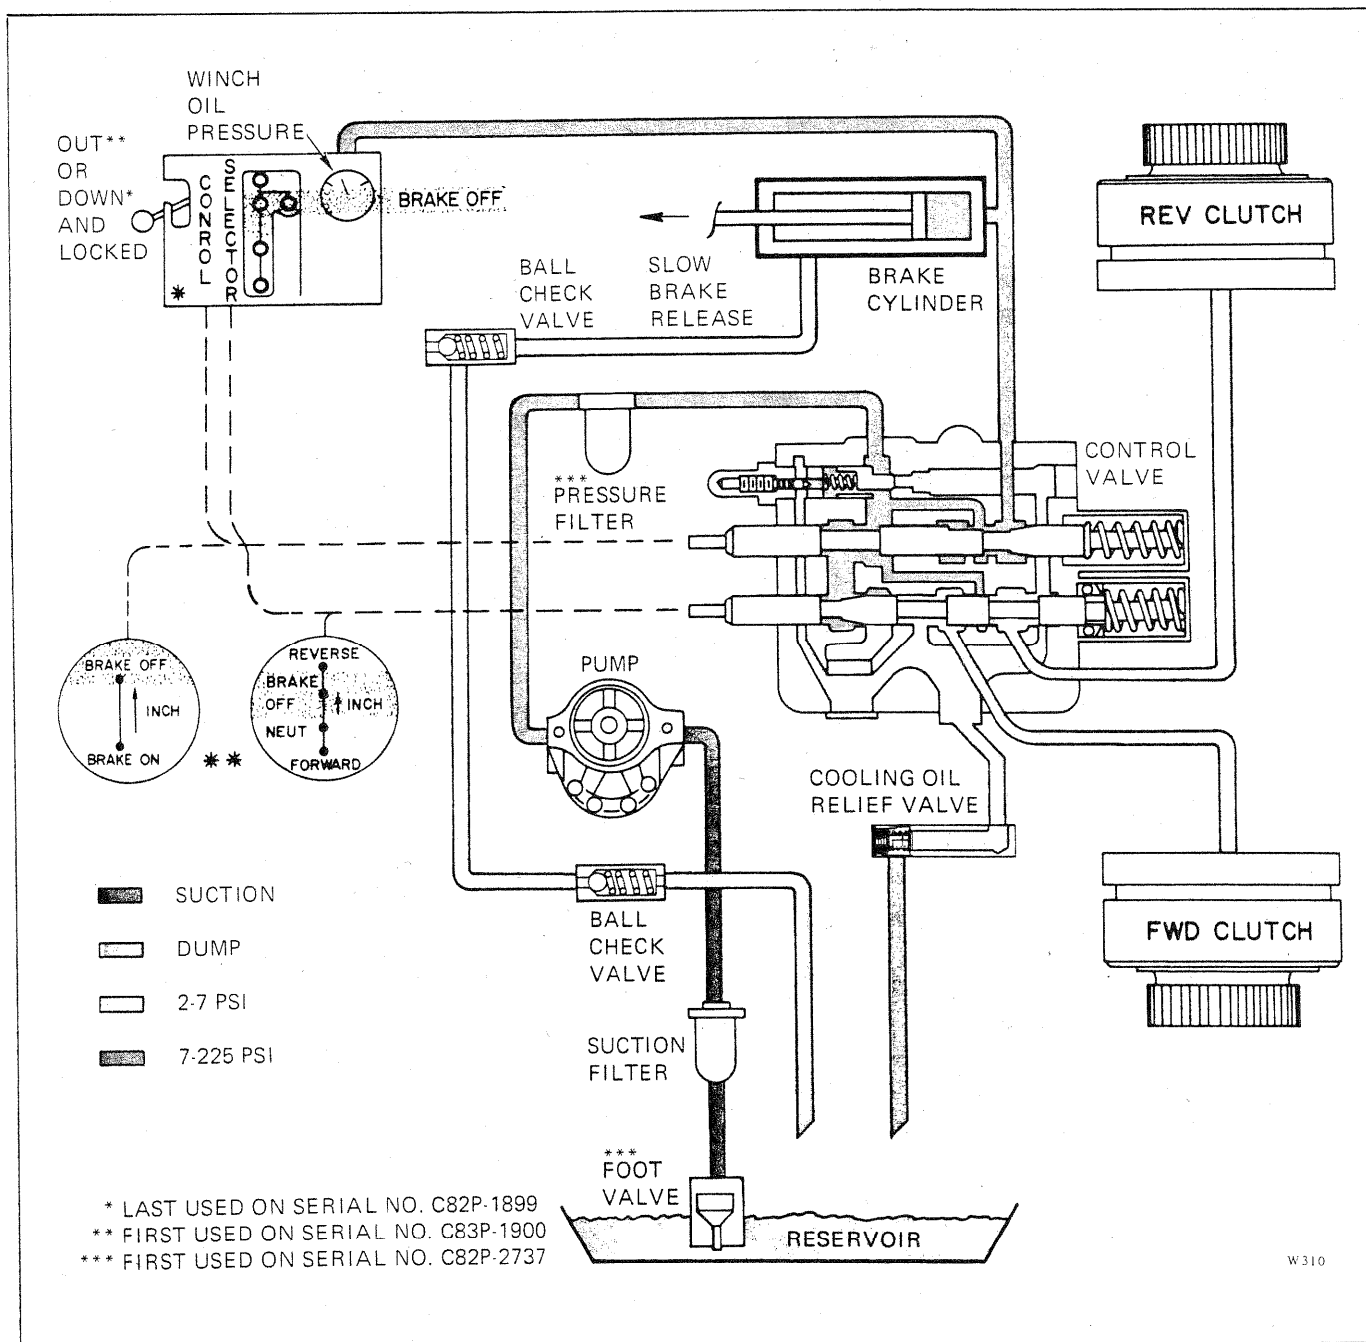

FIGURE 1-19. HYDRAULIC FLOW DIAGRAM, GRADUAL BRAKE RELEASE, NORMAL OPERATION
1-40. HYDRAULIC SYSTEM IN GRADUAL BRAKE RELEASE, NORMAL OPERATION. (See Figure 1-19.) On Early Production Handling Gear, the system is placed in GRADUAL BRAKE RELEASE, Normal Operation by: (1) Moving the Control Lever Down and locking it in place and (2) Shifting the Selector Lever to INCH. On later Production Handling Gear, this is accomplished by: (1) Locking the Inching Lever in BRAKE OFF and (2) Shifting the Selector Lever to INCH. When the Control Lever is locked in the Down position or the Inching Lever is locked in the BRAKE OFF position, the inching spool is pulled to its extreme OUT position. With the Selector Lever in the INCH position, Selector spool is slightly pulled out from its relaxed position. With the spools in these positions, the hydraulic pump draws oil from the reservoir through the suction filter and delivers it to the control valve inlet port. Oil will then flow through the valve, past both spools and fill the complete hydraulic circuit. At this time, there is no exit from the circuit for the hydraulic oil and the pressure increases. The pressure will continue to increase until the cooling oil relief valve opens and dumps the oil. The oil in the circuit is now regulated by the cooling oil relief valve. To gradually release the brake, the Selector Lever is slowly moved toward the BRAKE OFF position. This pulls the selector spool out of the valve, thus metering the oil between the spool and the control valve body. This metering of the oil causes a partial restriction and a slow pressure increase to the brake. This gradual pressure increase will gradually release the brake. When the selector spool is pulled out to the BRAKE OFF position (D-23 spool is detented to this position), the oil flow between the selector spool and the valve body will stop. The pressure will now increase to a pressure that will completely release the brake and relieve itself through the pilot-operated relief valve. This low pressure oil circulates to both clutches to cool the clutch discs.